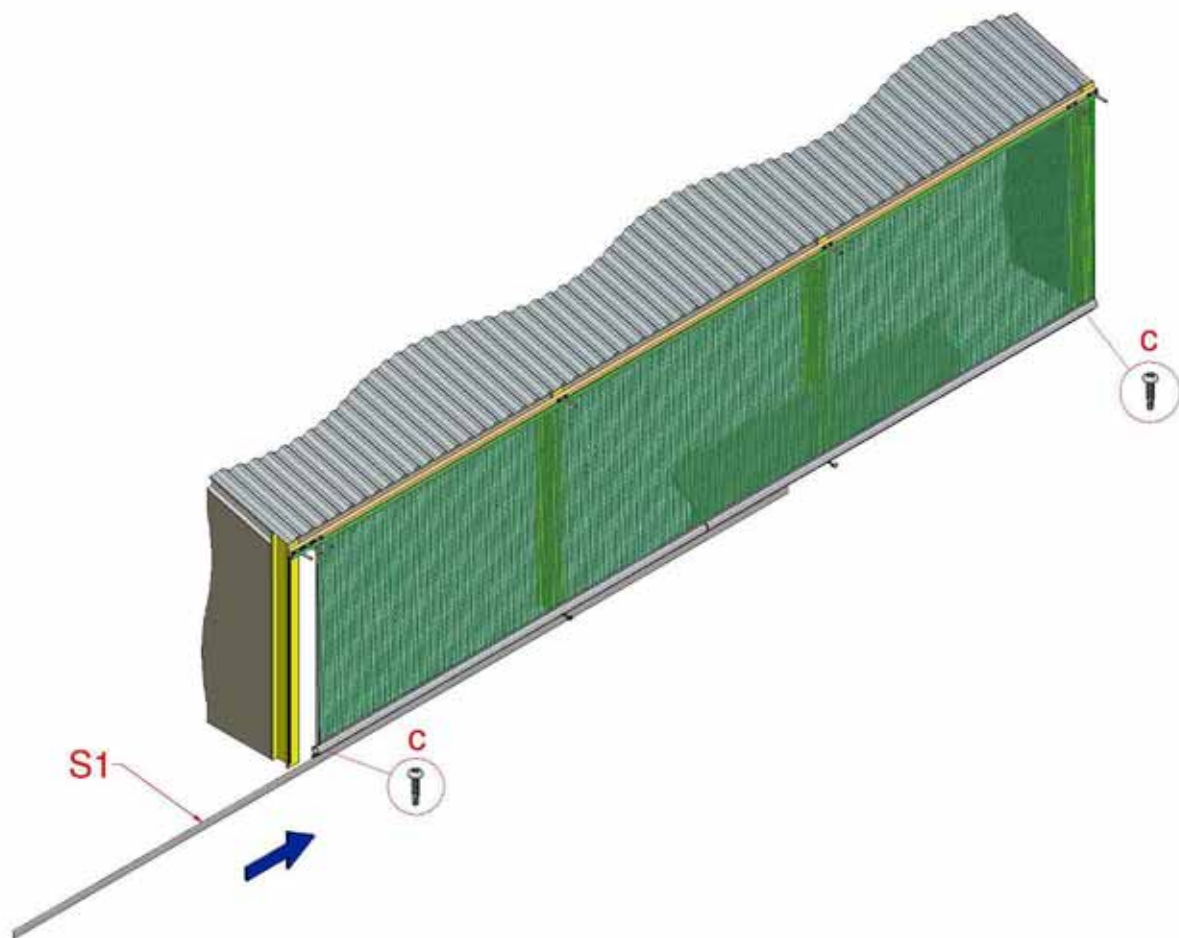

Figure 13, Fitting the Lower Flap
- 3.6 Cut the Curtain to length to achieve an offset of 6.5cm from the end of the Bottom Rolling Tube at the drive end and flush on the free end. Cut the Bottom Flap (S1) to the same length as the Curtain and feed into the lower flute of the tube. Secure with a self-drilling screw each end, Figure 13.